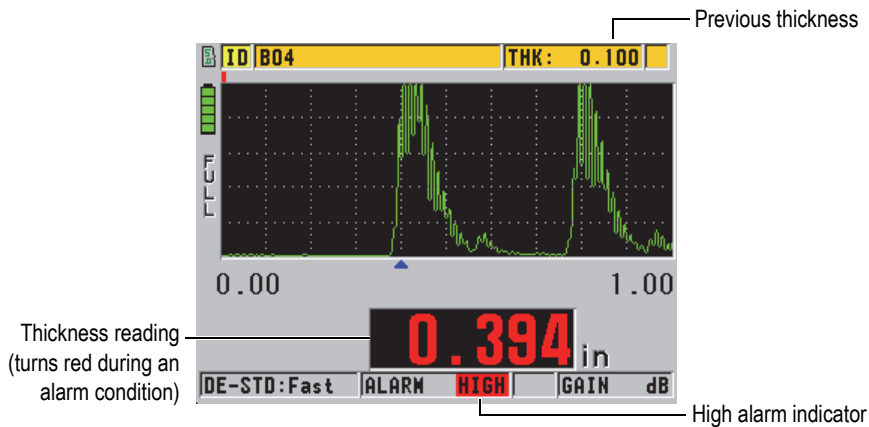

Figure 7-4 Example of a HIGH alarm indicator (Waveform option activated)
- The **HIGH** or **LOW** alarm indicator flashes with a red background at the bottom right corner of the measurement screen (see Figure 7-4 on page 142).